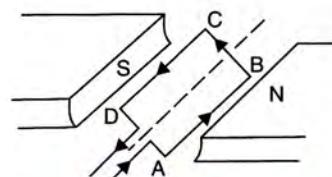

Fig. 10.28
- A coil ABCD mounted on an axle is placed between the poles N and S of a permanent magnet as shown in Fig. 10.28.